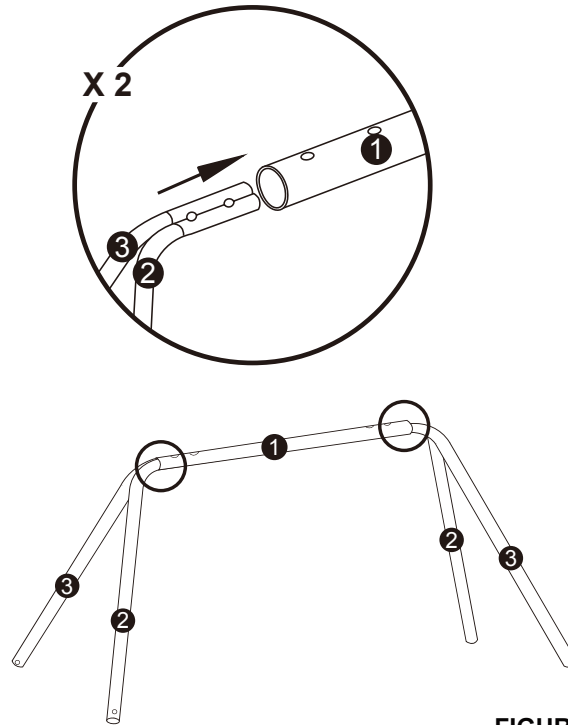

FIGURE 1
- Insert Legs (2) and (3) into Beam (1) as shown in FIGURE 1.
- Please note the order of Legs (2) and (3) need to be inverse on the two sides of the beam.